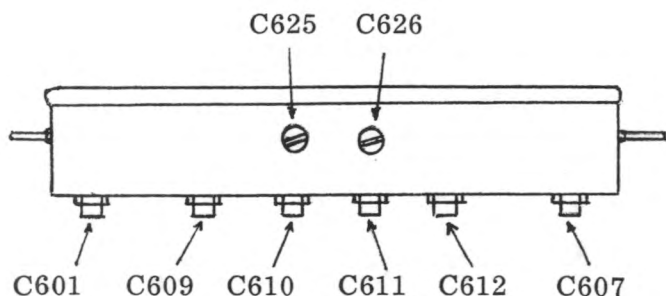

Fig. 15
4.2.2 Alternately adjust C607 and C612 on the filter Model IFF, located in the rear section of the main frame (see Fig. 15), for minimum adjacent sound carrier level. Make adjustments in small increments and repeat for optimum performance.